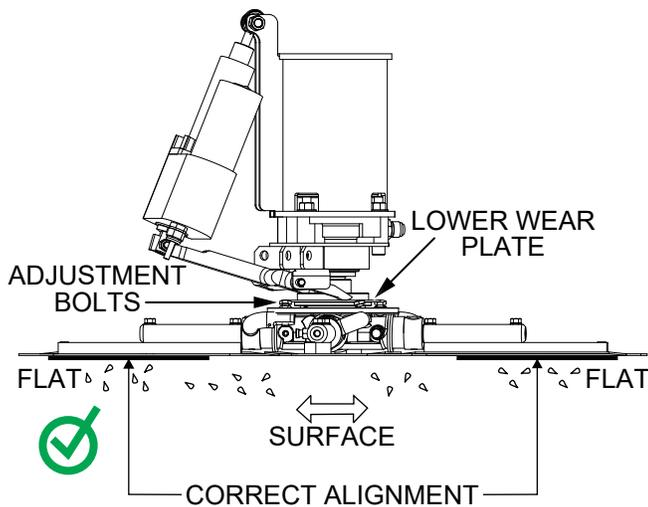

Figure 50. Correct Spider Plate Alignment
2. Pitch the blades as flat as possible. The adjustment bolts should all barely make contact with the lower wear plate on the spider. Figure 50 illustrates the correct alignment for a spider plate as shipped from the factory.